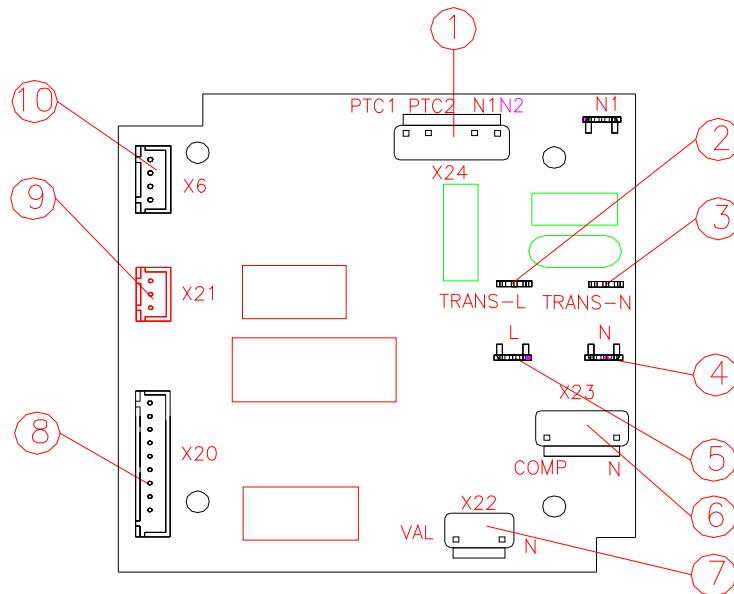

Fig. 13
○ The name and explanation of the power PCB ( Fig. 13)
- 4>. Plug all the connectors; ( Fig.13)